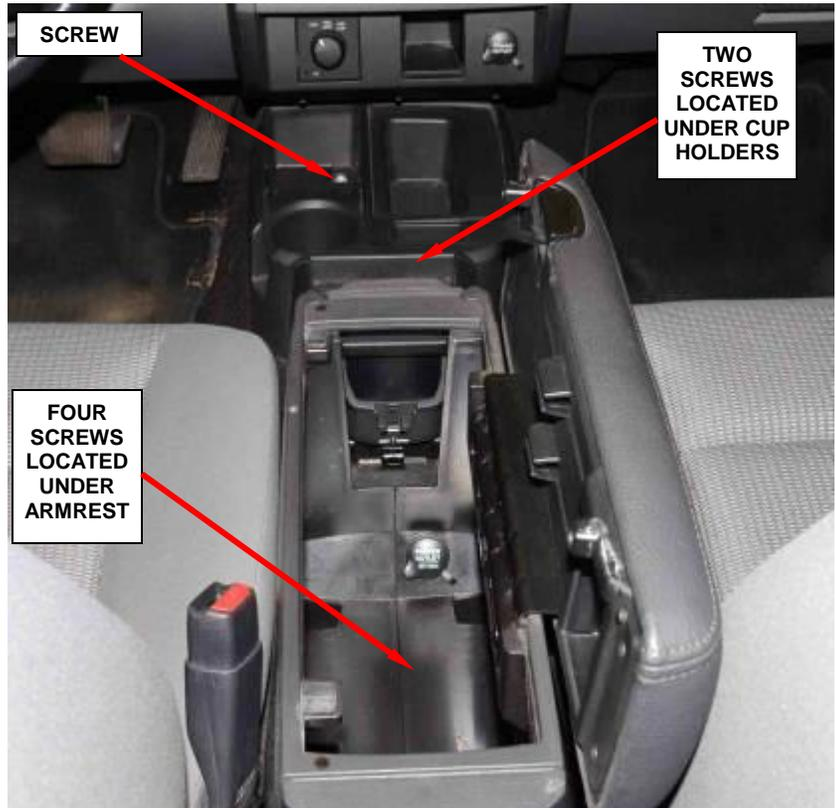

Figure 63 – Floor Console (ATX Shown)
- d. Remove the screws that secure the floor console to the floor panel (Figure 63).